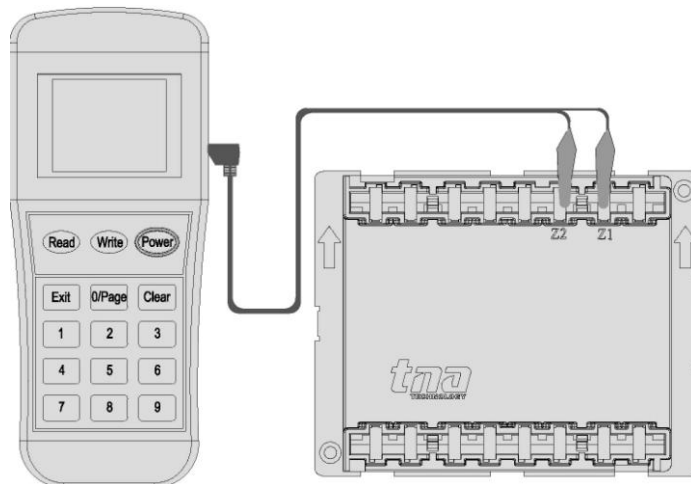

Figure 3: Programmer Connection Detail
1. Connect the programming cable to Z1 and Z2 terminals (Figure 3). Press **"Power"** to switch on the unit.